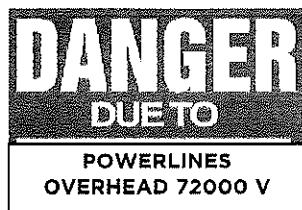

Figure 26-8: Warning Sign
- Place enough warning devices in the area of the hazard so that at least one is always visible to the operator. The warning devices must be visible to the operator under any conditions in which the equipment may be operating (night, rain, fog, etc.), and must be specific about the hazard. Provide a sign meeting the requirements of O. Reg. 213/91, s. 44, stating, for example, "Danger! Electrical Powerlines Overhead." We recommend that you include the voltage (Figure 26-8).